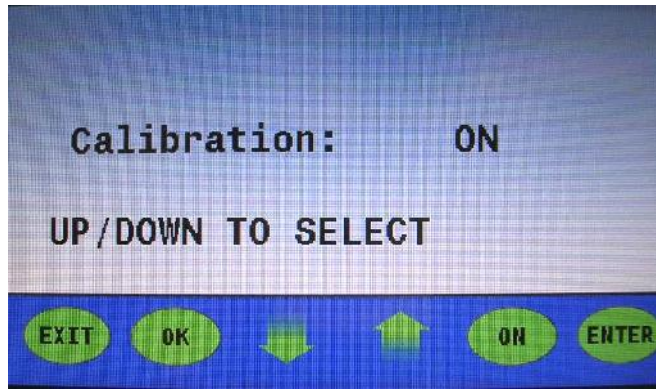

Figure 13
7. The display will read "CALIBRATION: ON" (**Figure 13**)